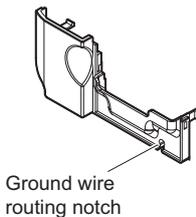

Figure 14 Terminal Cover Ground Wire Notch
10. On models CIMR-V□BA0006□ to BA0018□, 2A0008□ to 2A0069□, and 4A0001□ to 4A0038□, reattach the terminal cover. Refer to Figure 14 for drive models CIMR-V□BA0006□ to BA0018□, 2A0008□ to 2A0020□, and 4A0001□ to 4A0011□, which require routing the ground wire through the provided notch when reinstalling the terminal cover.